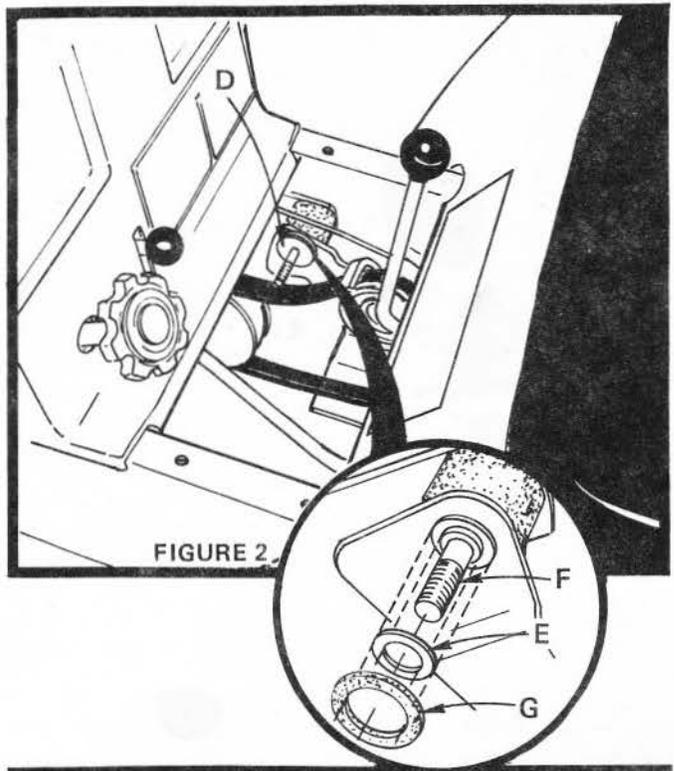
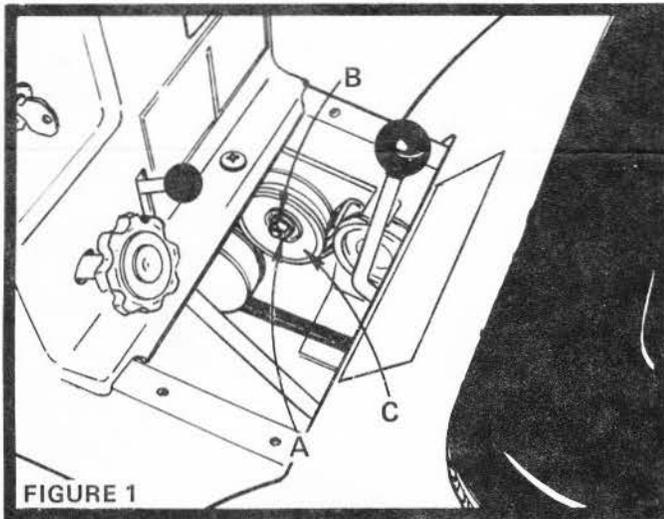

FIGURE 2
FIGURE 1
1. Remove Hex Nut (A), Flat Washer (B), Flat Idler (C) (Fig. 1) and Flat Washer (D) (Fig. 2). Discard Hex Nut (A) and Flat Washer (B).
BEFORE REASSEMBLING FLAT IDLER (C) BE SURE WASHER (E) IS OVER SHOULDER ON SHAFT OF VARIATOR SHAFT ASSEMBLY (F). FELT SEAL (G) MUST BE POSITIONED AROUND WASHER (E) (FIG. 2 - INSET).